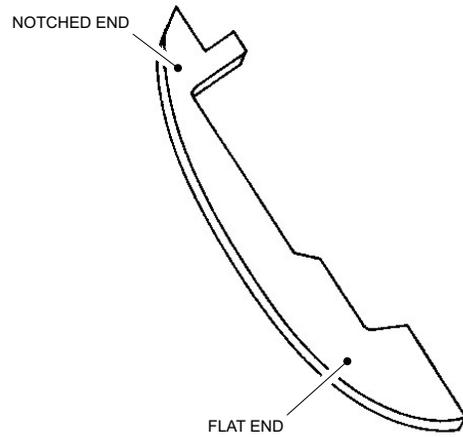

Figure 7.11.1
- C. Insert T-150 "E" Gap Gauge (Figure 7.11.1) between the pole laminations in the rotor shaft and the pole laminations in the frame.